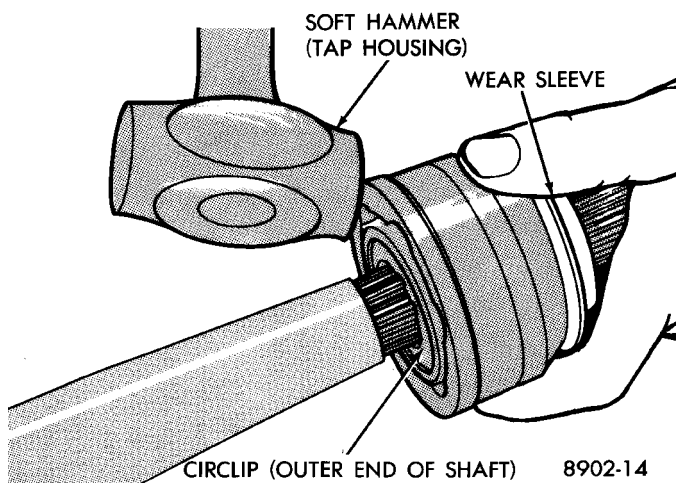

Fig. 45 Outer C/V Joint Removal from Interconnecting Shaft
(3) Wipe away grease to expose outer C/V joint and interconnecting shaft.
(4) Remove outer C/V joint from interconnecting shaft using the following procedure: Support interconnecting shaft in a vise **equipped with protective caps on jaws of vise to prevent damage to interconnecting shaft**. Then, using a **soft-faced hammer**, sharply hit the end of the C/V joint housing to dislodge housing from internal circlip on interconnecting shaft (Fig. 45). Then slide outer C/V joint off end of interconnecting shaft, joint may have to be tapped off shaft using a **soft-faced hammer**.